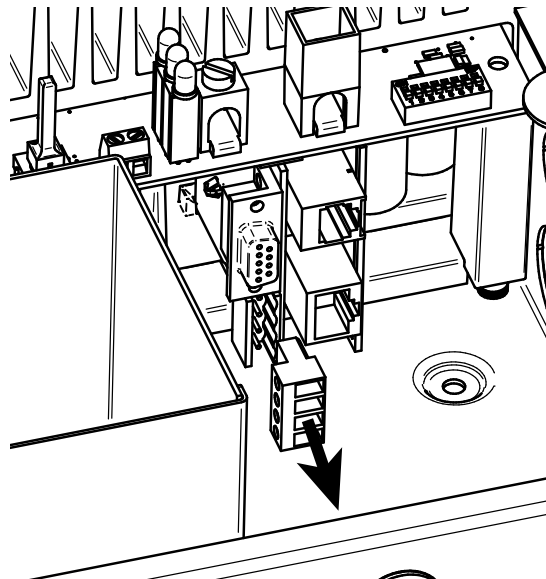

Figure 3-13. Removing the EIA-485 socket connector
The four (4) position EIA-485 connector on the TriStar MPPT 600V 600V must be removed to access the terminal screws. Remove the socket connector by firmly grasping the connector body and pulling away from the circuit board as shown in figure 3-13.